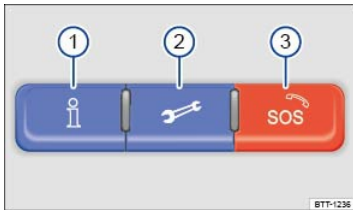

Fig. 147 In the roof console: 3-button module to connect to VW Car-Net Security & Service operators (if equipped).
You can access VW Car-Net Security & Service via your VW Car-Net iPhone® or Android® app (text and data rates apply) and the VW Car-Net Security & Service website (<http://www.vw.com/carnet>). If you have a question or would like to subscribe, please either press the → Fig. 147① button in your vehicle or contact the VW Car-Net Security & Service Response Center at 1-877-820-2290. For more information or to log on to your VW Car-Net Security & Service account, visit <http://www.vw.com/carnet>.
The Manual Emergency Call service and all other VW Car-Net® Security & Service features require a trial or paid subscription. To begin your trial or paid subscription, authentication and activation are required. For more information, please visit the website (<http://www.vw.com/carnet>), press the → Fig. 147① button in the 3-button module in your vehicle, or contact the VW Car-Net Security & Service Response Center at 1-877-820-2290.
Key to ⇒ Fig. 147 :